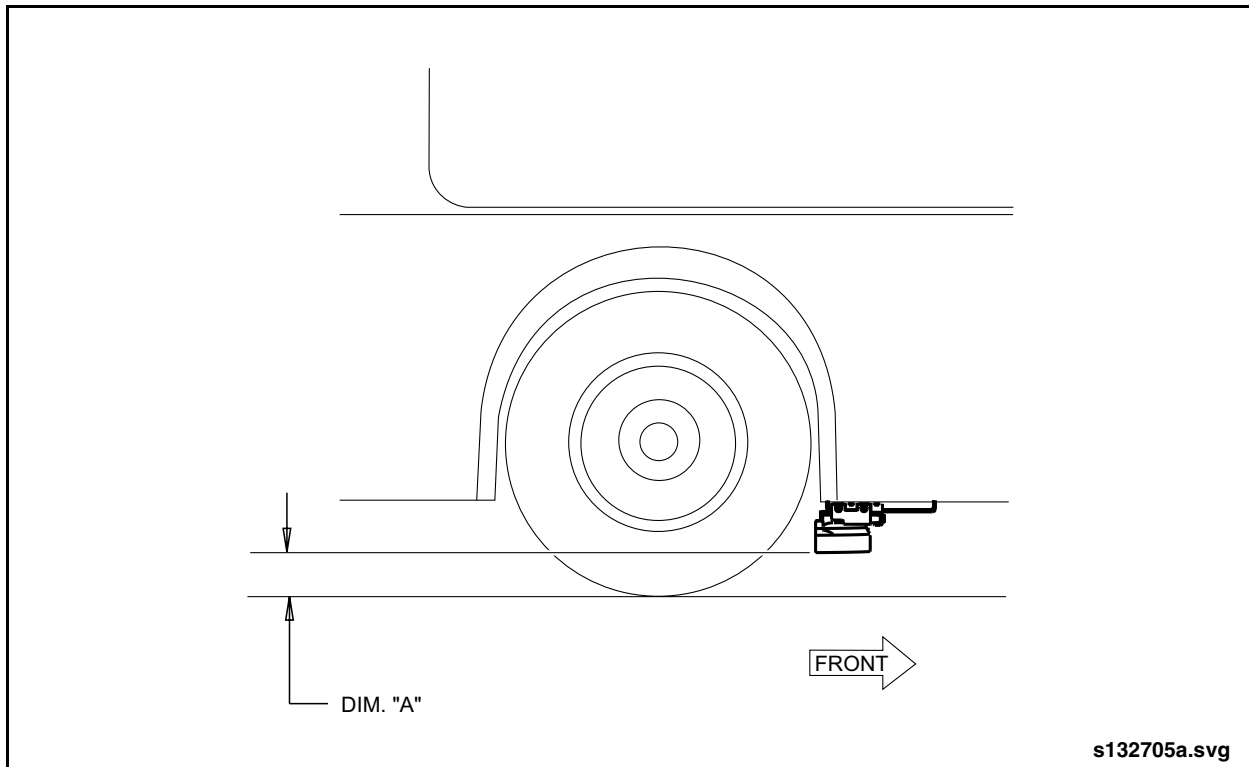

Fig. 1: Required S-1 Gard to Street Clearance
- Replace or adjust S-1 Gards which are worn or do not meet this specification. Refer to "1.3. S-1 Gard Specifications" for clearance dimension "A". See "Fig. 1: Required S-1 Gard to Street Clearance". The S-1 Gard entire lower edge must be level with and not contact the ground in order for it to function correctly.
10. Measure ground clearance to match specified dimensions. Refer to "1.3. S-1 Gard Specifications" for clearance dimension "A". See "Fig. 1: Required S-1 Gard to Street Clearance."